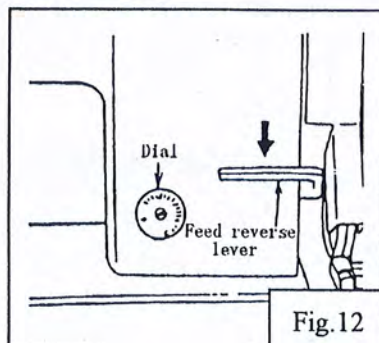

Fig.12
**5) Adjustment of stitch length and reverse sewing (Fig.12):**